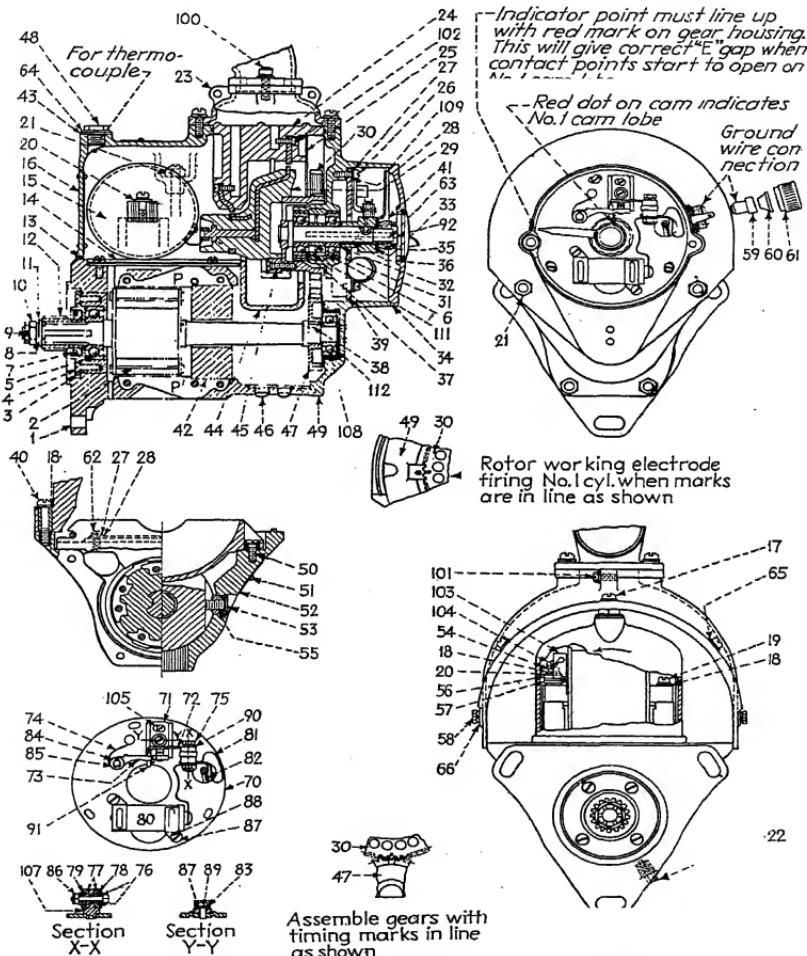

FIG. 9.—Details of American Bosch type SF14LU-6 magneto.
The American Bosch SF14LU-6 magneto is a 14-cylinder, fixed ignition, eight-pole, three-bolt, flange mounted polar inductor-type magneto of counterclockwise rotation, driven direct through a splined coupling. The magneto drive shaft which turns at seven-eighths engine speed rotates the 14-lobe compensating breaker cam at one-half engine speed through a  $1\frac{3}{4}$  to 1 gear ratio between the magneto and breaker camshafts. It is radio-shielded and, complete with radio shield and drive member, weighs  $17\frac{3}{4}$  lb. Figure 9 shows its construction and has the parts numbered.
**Internal Timing.**—Both gears are in correct mesh when the white mark on distributor gear (1) is positioned between the two red marks on the inductor rotor gear (47) in Fig. 9. This can be observed through the hole in the gear housing (3) in Fig. 9.